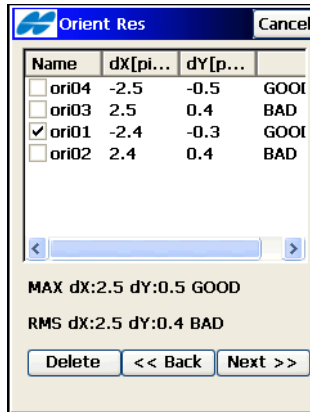

Figure 8-61. Delete Orientation Points
- To delete the selected orientation points, select the points and tap the **Delete**  button on the ***Orientation Res*** screen (Figure 8-61).